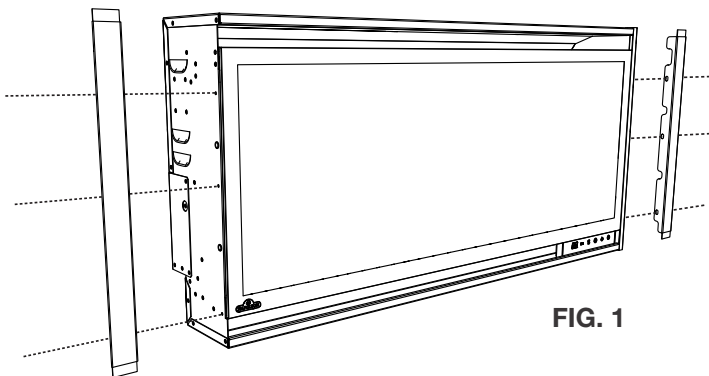

FIG. 1
1. Install left and right trims, and secure with fasteners (FIG. 1).